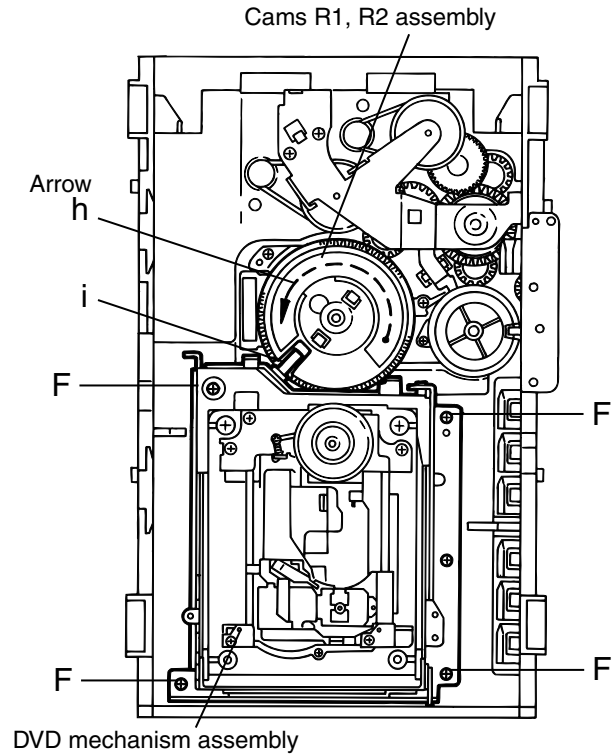

Fig.10
■ Removing the DVD mechanism assembly (See Fig.10)
1. While turning the cams R1 and R2 assembly in the arrow direction **h**, align the shaft **i** of the DVD mechanism assembly to the position shown in Fig.10.